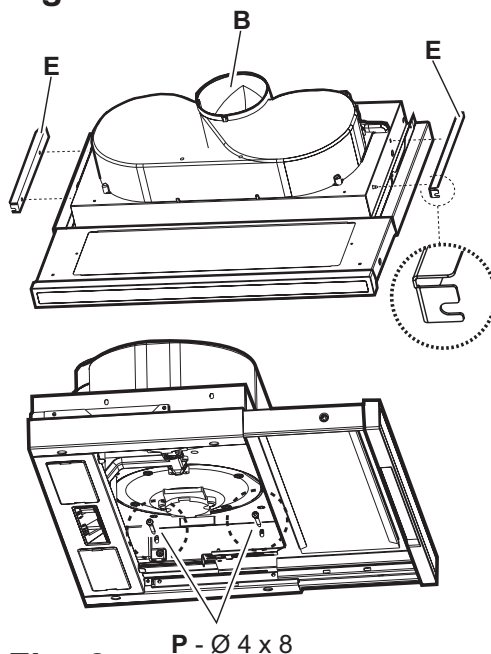

Fig. 8
- Fix 2 brackets **E** (Fig. 8) to the sides of the cooker hood (one per side).
- If the cooker hood should not touch perfectly with the lower border of the wall cabinet then regulate by loosening the screws **P** of the brackets **E** mounted on the cooker hood (Fig. 8), it will be possible to regulate the perfect matching of the cooker hood and wall cabinet, once regulated tighten the screws.